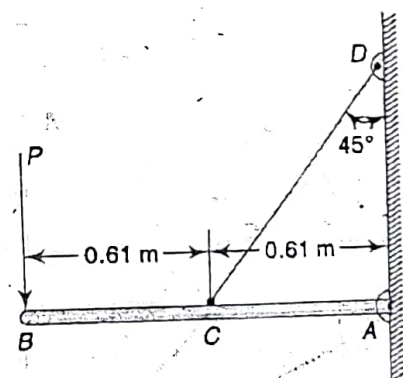

Figure 2
- b) A horizontal beam AB is hinged to a vertical wall at A and supported at its mid-point C by a tie rod CD as shown in Fig. 2. Find the tension S in the tie rod and the reaction at A due to a vertical load P applied at B.